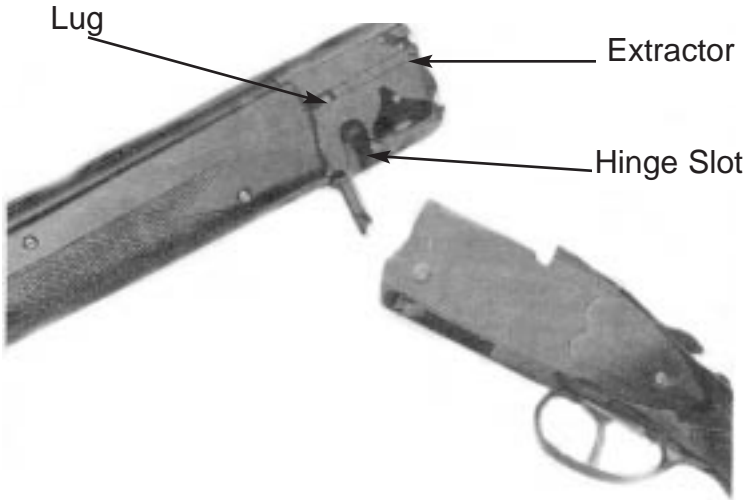

Fig.2 Disassembling Barrel from Receiver
To assemble, ensure that the latch (8) is in the vertical position (see Fig 2). Grasp the barrel with left hand and hold receiver with right hand. Move top lever to extreme right. Ensure that the extractor is fully forward. Slide the barrel assembly into the receiver. Ensure that the pins on the extractor fit into the grooves in the receiver. Close
Before disassembling, ensure your shotgun is unloaded and pointed in a safe direction. Move the barrel latch downward to its rear most position. Move the top lever to the extreme right to open the shotgun. Swing the barrel down for approximately 15°. Ensure the extractor is seated forward fully. Pull the barrel upward with your left hand, and press the buttstock downward with your right hand. Exert force simultaneously with both your hands in opposite directions to release the barrel from the receiver as shown in Fig 2.